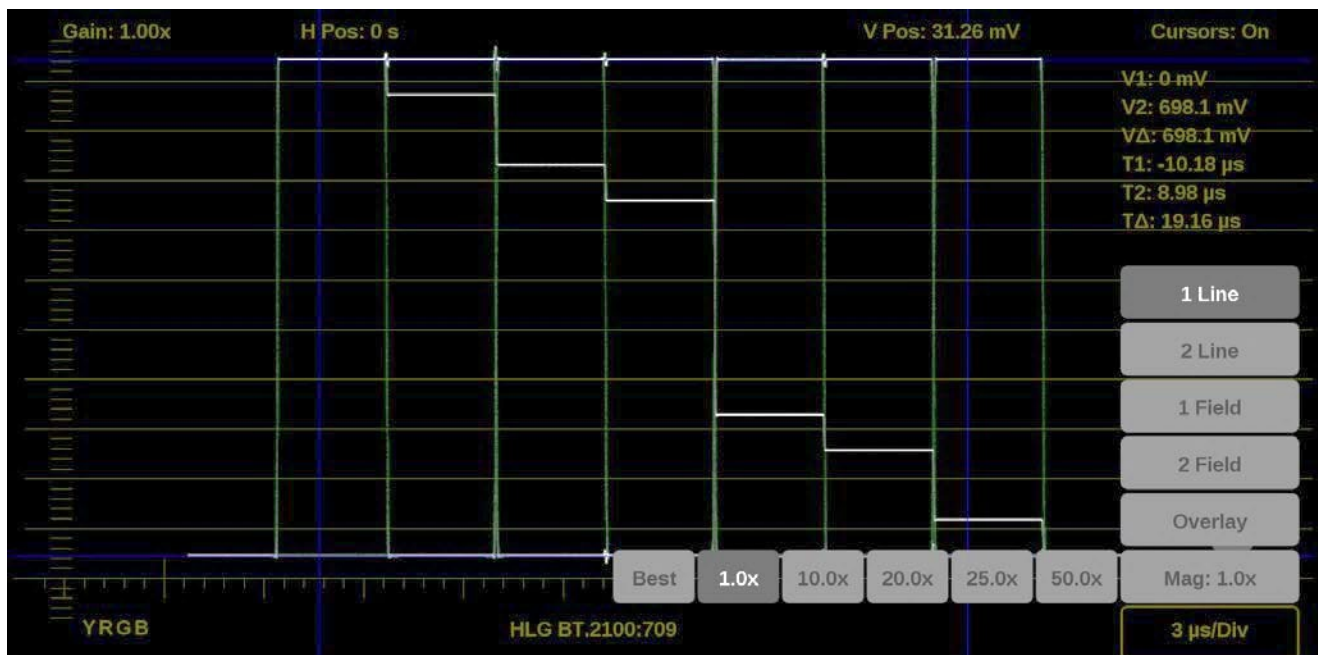

Figure 106: Waveform on-screen tools – display format
1. Select the button in the bottom right corner of the application to expand the available display format options. (See Figure 106.)